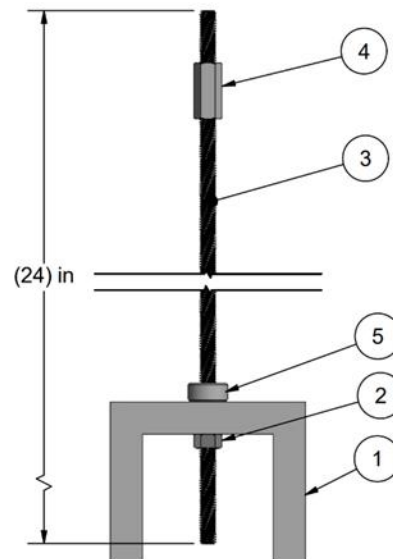

Figure 28: Bump Removal Jig
3. The Bump Removal Jig will need to be assembled as shown in Figure 28.